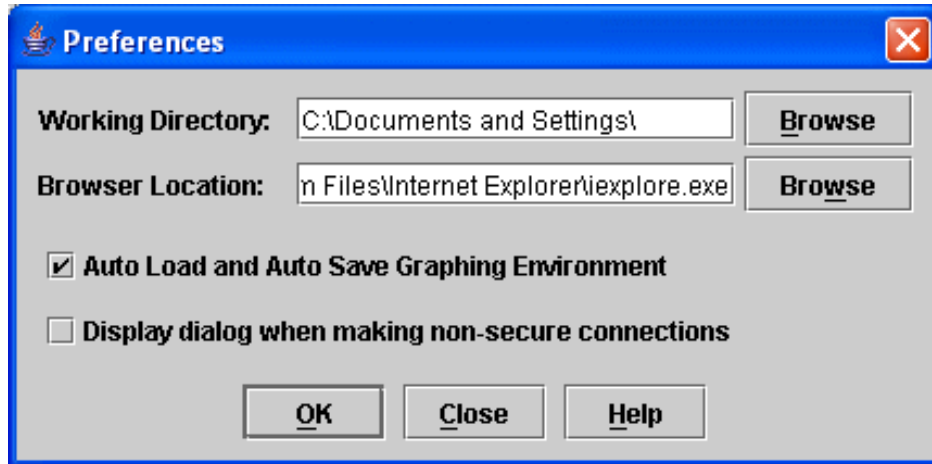

Figure 2-5. Preferences Dialog – SANsurfer Switch Manager
- Enable (default) or disable the Event Browser. Refer to "Displaying the Event Browser" on page 3-30. If the Event Browser is enabled using the Preferences dialog as shown in Figure 2-5, the next time SANsurfer Switch Manager is started, all events will be displayed. If the Event Browser is disabled when SANsurfer Switch Manager is started and later enabled, only those events from the time the Event Browser was enabled and forward will be displayed.